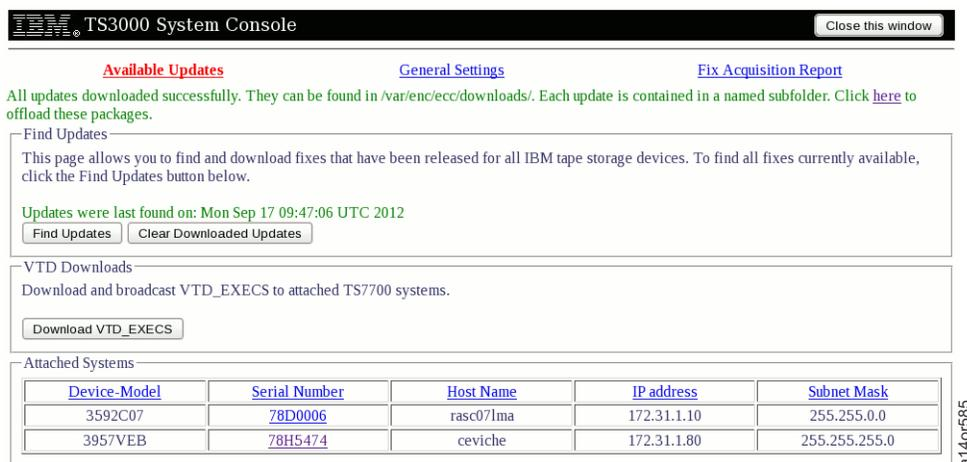

Figure 263. Fix Acquisition Main Menu
8. To delete previously downloaded updates from the TSSC, click the **Clear Downloaded Updates** button as shown on Figure 263 on page 210